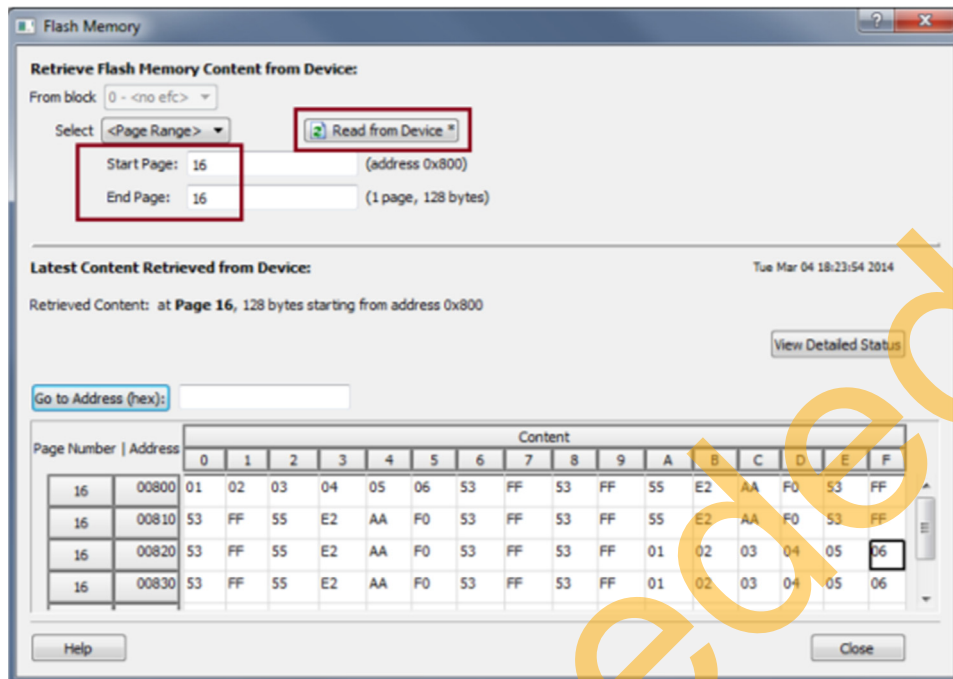

Figure 23 • Flash Memory (eNVM) Content Read from the Device
3. Click **View Flash Memory Content** to retrieve the eNVM content from the device using the SmartDebug window as shown in Figure 23. The **Flash Memory** window is displayed.
5. Click **Read from Device** as shown in Figure 23.